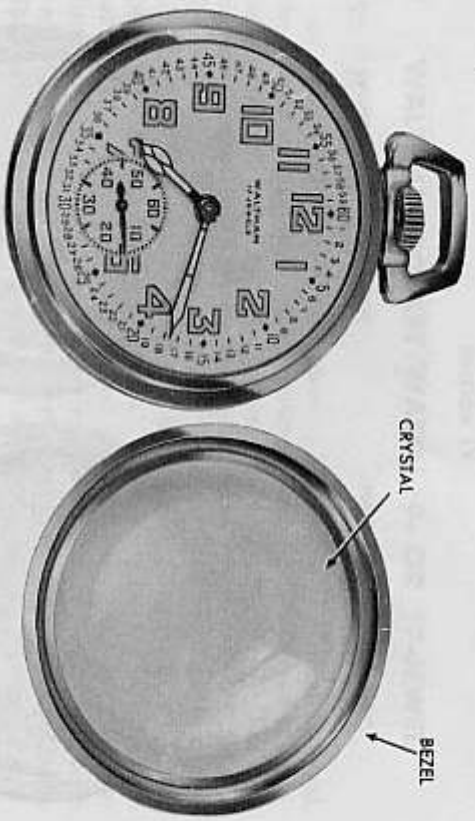

Figure 94 — Waltham Pocket Watch — Bezel Removed
- b. Remove Bezel (fig. 94). Remove bezel by unscrewing it counterclockwise.
r. Replace Bezel (fig. 94). Replace bezel and screw into place.